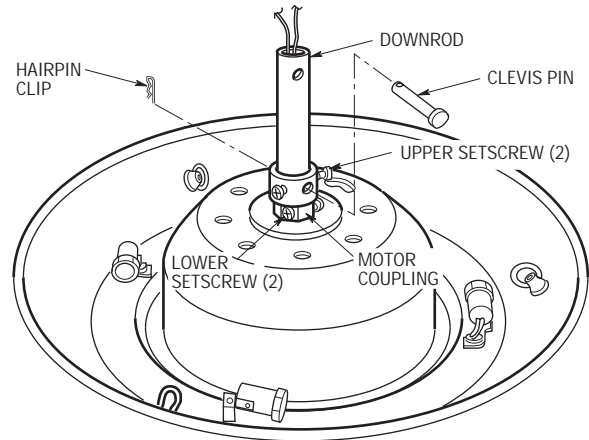

Figure 3
2. Separate, untwist and unkink the two 80" motor leads. Route the motor lead wires through either the 4-1/2" or the 18" downrod. Remove the two upper setscrews from the motor coupling. Align the clevis pin holes in the downrod with the holes in the motor coupling. Install the clevis pin and secure with the hairpin clip (Figure 3). The clevis pin must go through the holes in the motor coupling and the holes in the downrod. Be sure to push the straight leg of the hairpin clip through the hole near the end of the clevis pin until the curved portion of the hairpin clip snaps around the clevis pin. The hairpin clip must be properly installed to prevent the clevis pin from working loose. Pull on the downrod to make sure the clevis pin is properly installed. **Reinstall the upper setscrews in the motor coupling. Check that the lower setscrews are tightened securely (Figure 3).**